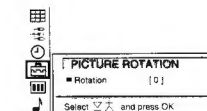

Fig. 17
- 4 Select »Picture Rotation« with  $\Delta$  or  $\nabla$ - and press OK. The PICTURE ROTATION menu appears. (See Fig. 17.)